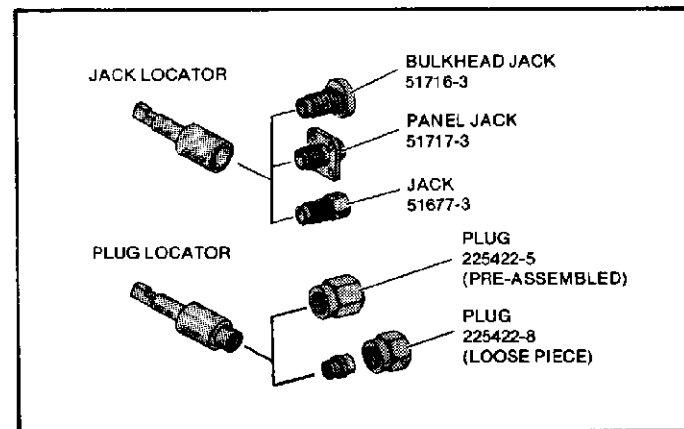
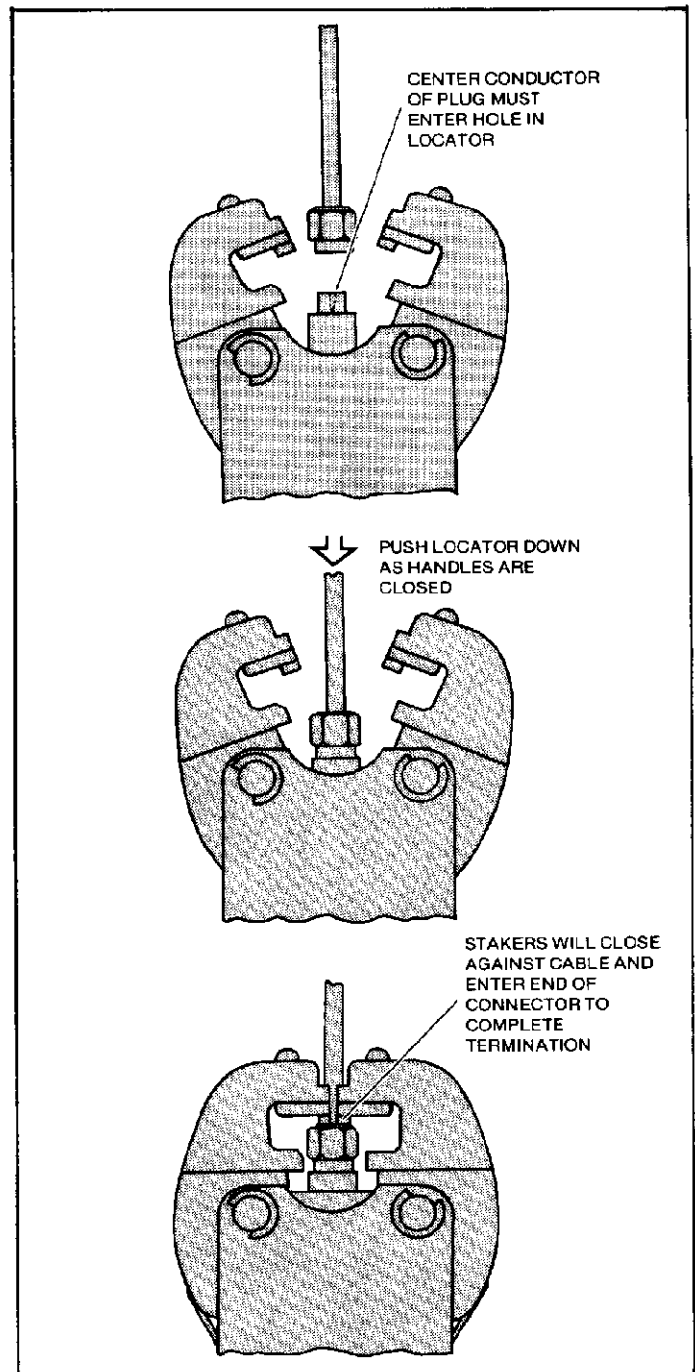

Figure 8
Figure 10
- (a) Determine if plugs or jacks are to be terminated and select proper locator. See Figure 8.
- (d) Position connector on locator. If plug is being applied, make sure that center conductor enters hole in locator. See Figure 10. For all jacks, end of locator must enter end of jack. See Figure 8.